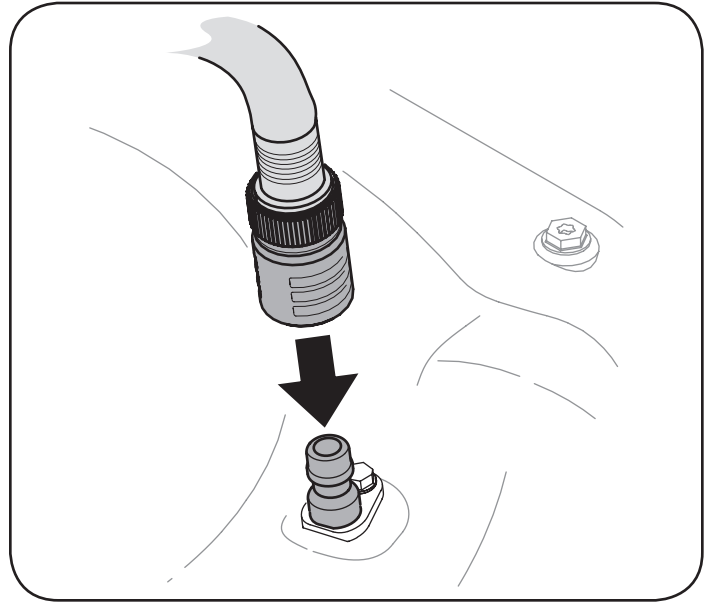

Figure 20
3. Attach garden hose with the deck wash nozzle to the water port on your deck's surface. See Figure 20.